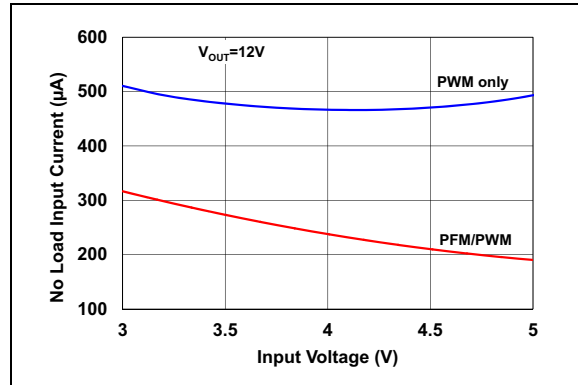

FIGURE 2-8: No Load Input Current, I_{IN0} vs. V_{IN} ($EN = V_{IN}$).
- 2:** I_{IN0} varies with input and output voltage and input capacitor leakage (Figure 2-8). I_{IN0} is measured on the V_{IN} pin when the device is switching (EN = V_{IN}), at no load, with R_{TOP} = 180 kΩ and R_{BOT} = 20 kΩ.
- 2:** I_{IN0} varies with input and output voltage and input capacitor leakage (**Figure 2-8**). I_{IN0} is measured on the V_{IN} pin when the device is switching ($EN = V_{IN}$), at no load, with $R_{TOP} = 180\text{ k}\Omega$ and $R_{BOT} = 20\text{ k}\Omega$.